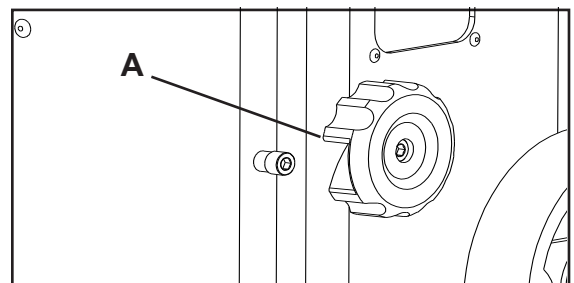

Figure 19
- i) Close and lock both the wheel doors (A-Fig.19) before reconnecting the power supply.